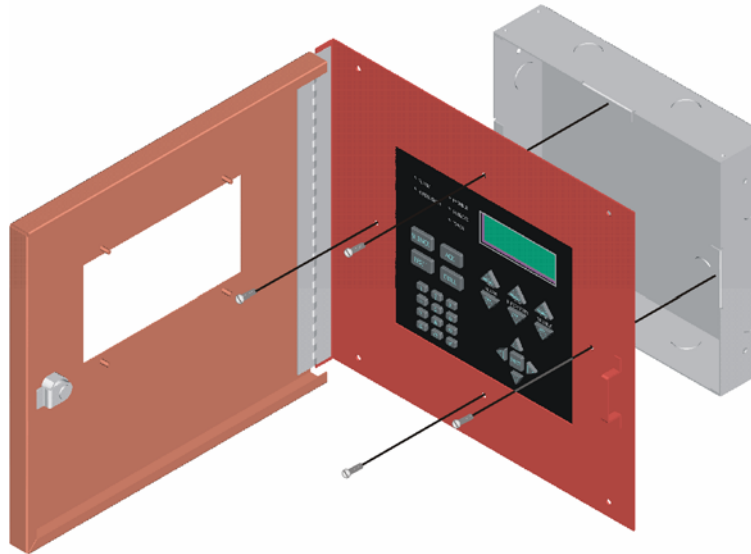

Figure 4-18 Attaching Annunciator/Door Assembly to Backbox
4. Attach the annunciator and door assembly to back box as shown in Figure 4-18 using the supplied screws.